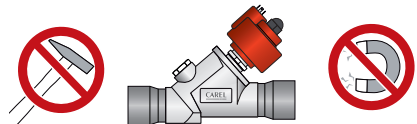

Fig. 2
Le valvole E7V Twin devono essere saldate al circuito mediante brasatura dei raccordi in rame ai tubi di uscita condensatore (IN) e di ingresso evaporatore (OUT). Seguire la successione indicata in Fig. 2 procedendo in questo modo:
The E7V Twin valves must be joined to the circuit by braze welding the copper fittings to the condenser outlet (IN) and evaporator inlet pipes (OUT). Proceed as indicated in Fig. 2.
6. Make sure that the red stator is fully inserted on the cartridge with the black nut screwed on tightly until deforming the rubber ring on the stator (tightening torque 0.8 Nm). (Fig. 2 D);